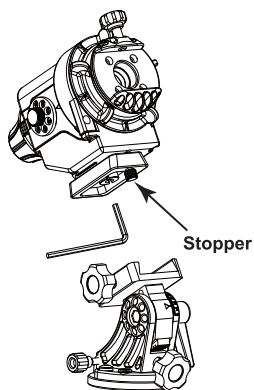
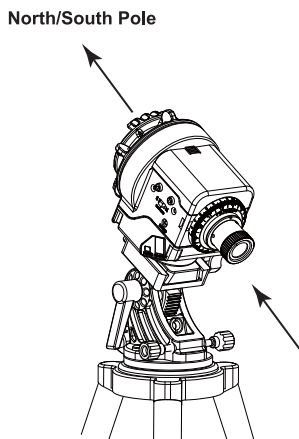

Fig 6
Fig 7
**With Equatorial Wedge:** Make sure **1/4" to 3/8" Convert Screw Adapter** is not in the 3/8" threaded socket at the bottom of the **Star Adventurer**. If it is, use an Slot Screwdriver to remove it. Mount the **Star Adventurer** on the (optional) Equatorial Wedge (Fig 6). Make sure the Stopper is facing forward. Then Point the **Polar Scope** to the direction of the North Pole (For Northern Hemisphere observing) or South Pole (For Southern Hemisphere observing) (Fig 7). Then complete the Polar Alignment process (Please see **Polar Alignment** session for reference).